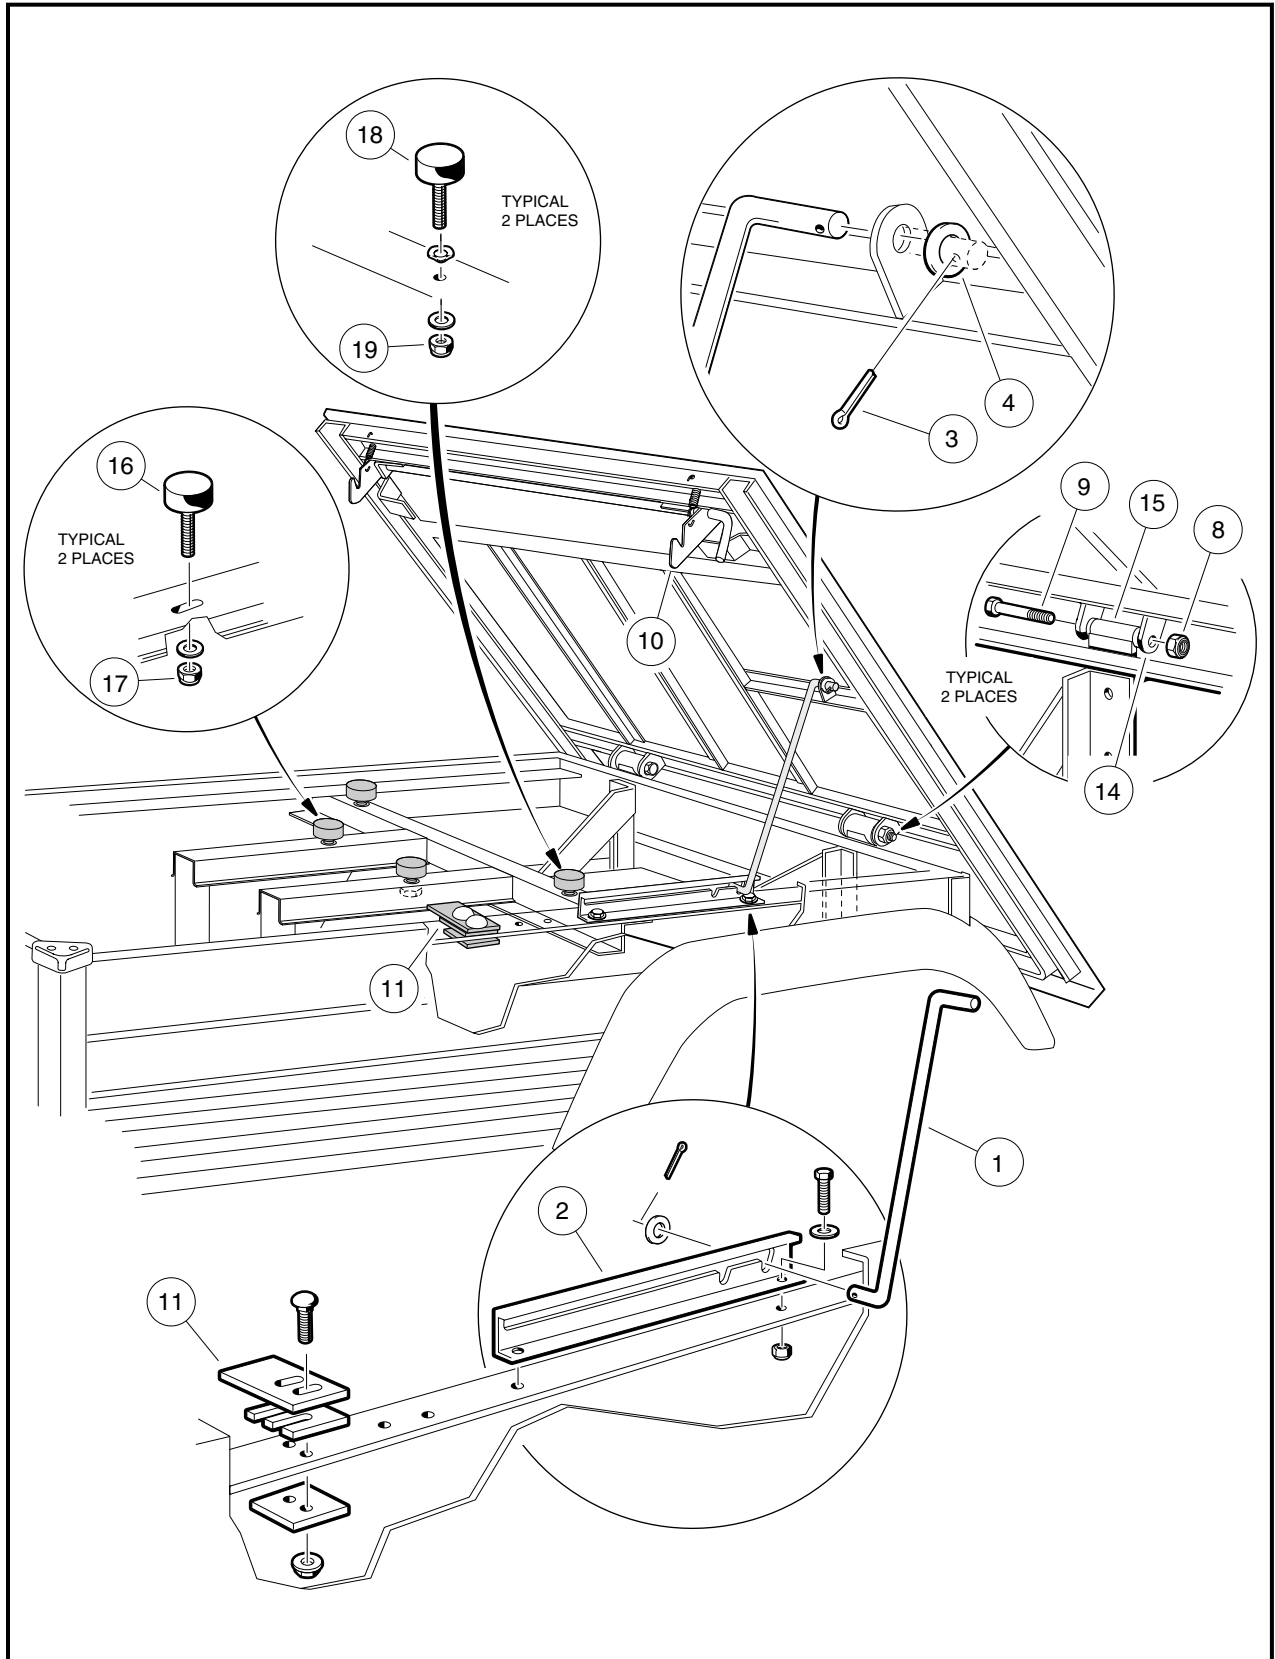

Figure 4-4 Tilt Bed
1. Raise bed and ensure that the prop rod (1) is secured in the prop rod track (2). Hold bed securely in an upright position. Remove cotter pin (3) and flat washer (4) from top end of prop rod where prop rod attaches to bed. Remove prop rod (1) from bed and place prop rod between prop rod track (2) and rear body panel. Lower bed onto vehicle frame **(Figure 4-4, Page 4-13).**
1. Hold bed at a slight angle (front of bed lower than rear of bed) to vehicle and place front edge of bed onto vehicle frame. Bed latches (10) should engage with latch plates (11) (**Figure 4-4, Page 4-13**).
2. Lower rear edge of bed onto vehicle and align frame hinge brackets (14) with bed hinge brackets (15).
3. Start the 3/8-16 x 3-3/8 bolts (9) into left and right hinge assemblies. (It may be necessary to use an alignment tool to align holes in hinge bracket with steel bushing in hinge assembly) (**Figure 4-4, Page 4-13**).
5. Install a 3/8-16 nylon lock nut (8) on each bolt (9) and tighten to 15 ft-lb (21 N·m) (**Figure 4-4, Page 4-13**).
6. Lift bed from bed latch and with prop rod in a slot notch, place prop rod (1) in bed mounting hole and install a 3/8 inch flat washer (4) and a new cotter pin (3) through hole in prop rod (**Figure 4-4, Page 4-13**).
1. Adjust the two front bumpers (16) by loosening the 1/4-20 nylon lock nuts (17) and positioning the bumper in the slot so that when the tilt bed is lowered, the bumpers are centered on the bed frame weldment at each position (**Figure 4-4, Page 4-13**).
2. Tighten the lock nuts (17) to 20 in-lb (2.3 N·m).
3. Adjust the two rear bumpers (18) by tightening or loosening the nuts (19) until a 1/8-inch gap between the bottom of the bumper head and the frame weldment is achieved. These bumpers are not to be tightened to the frame. There is a wave washer between the bumper and frame so that the bumper will "float." Weldments on the frame should rest on these two bumpers.